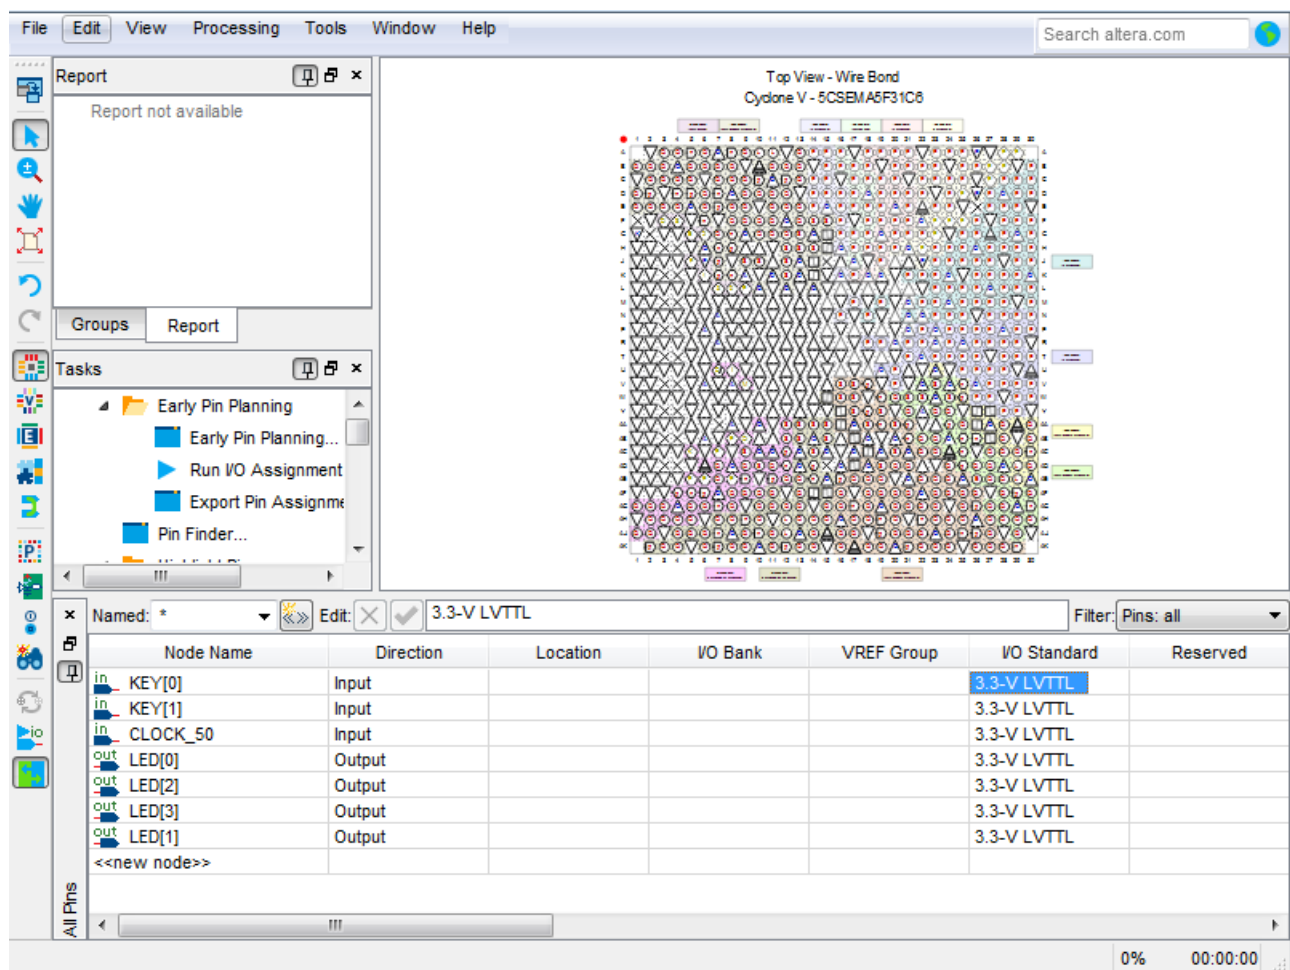

Figure 3-31 Pin Planner Example
1. Choose Assignments > Pin Planner, which opens the Pin Planner, a spreadsheet-like table of specific pin assignments. The Pin Planner shows the design's six pins. See **Figure 3-31**.